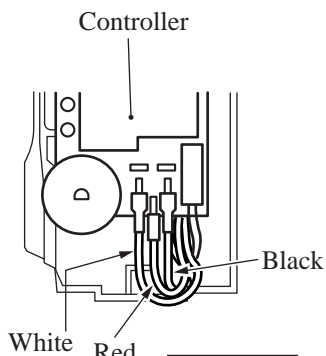

Figure 7
- f. Pull out the 3 pieces of terminals (white, black and red).(See the figure 7.)